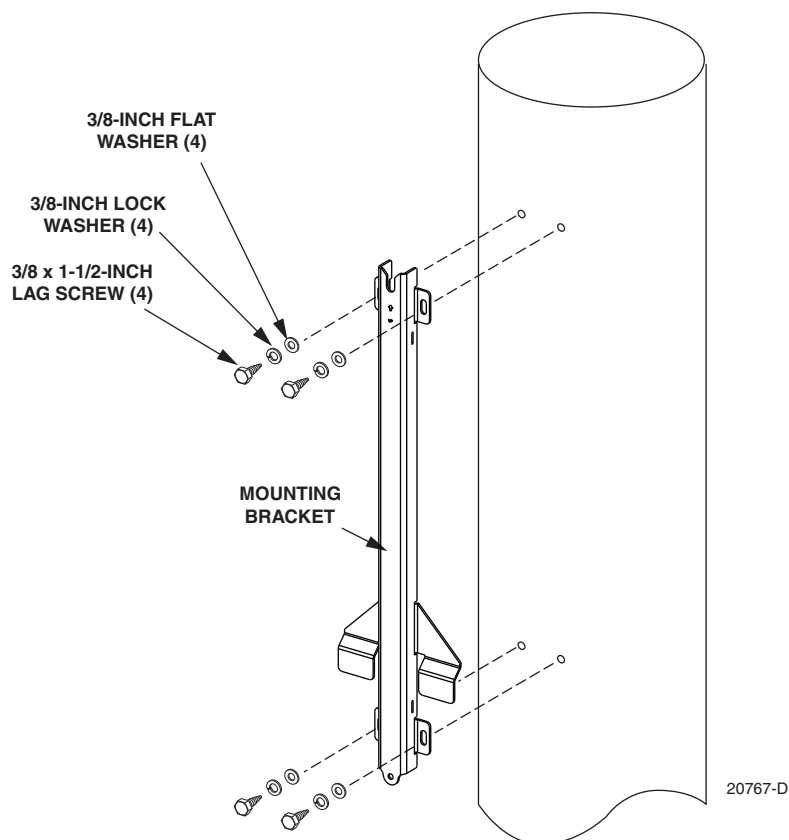

Figure 3-5: Secure Standard Mounting Bracket To a Wooden Pole
- 1 Hold the enclosure mounting bracket in position for installation on the wooden pole as shown in Figure 3-5. The end with the V-notch should be at the top.